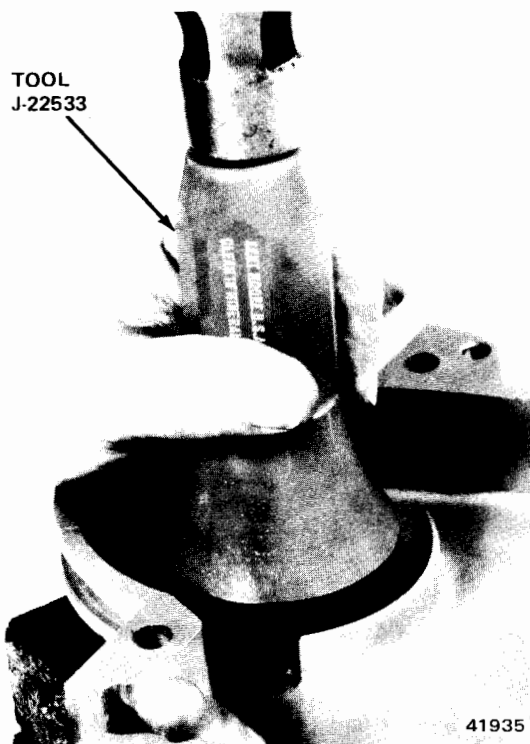

Fig. 1B-22 Timing Case Cover Oil Seal Replacement
(1) Pry out original seal from inside timing case cover and clean seal bore.
(2) Apply a light coat of Perfect Seal compound, or equivalent, to outer surface of a new seal.
(3) Drive seal into place from inside the cover with Seal Installer Tool J-22533 until it contacts the outer flange of the cover (fig. 1B-22).
(4) Apply a light film of engine oil to lips of neoprene seal.